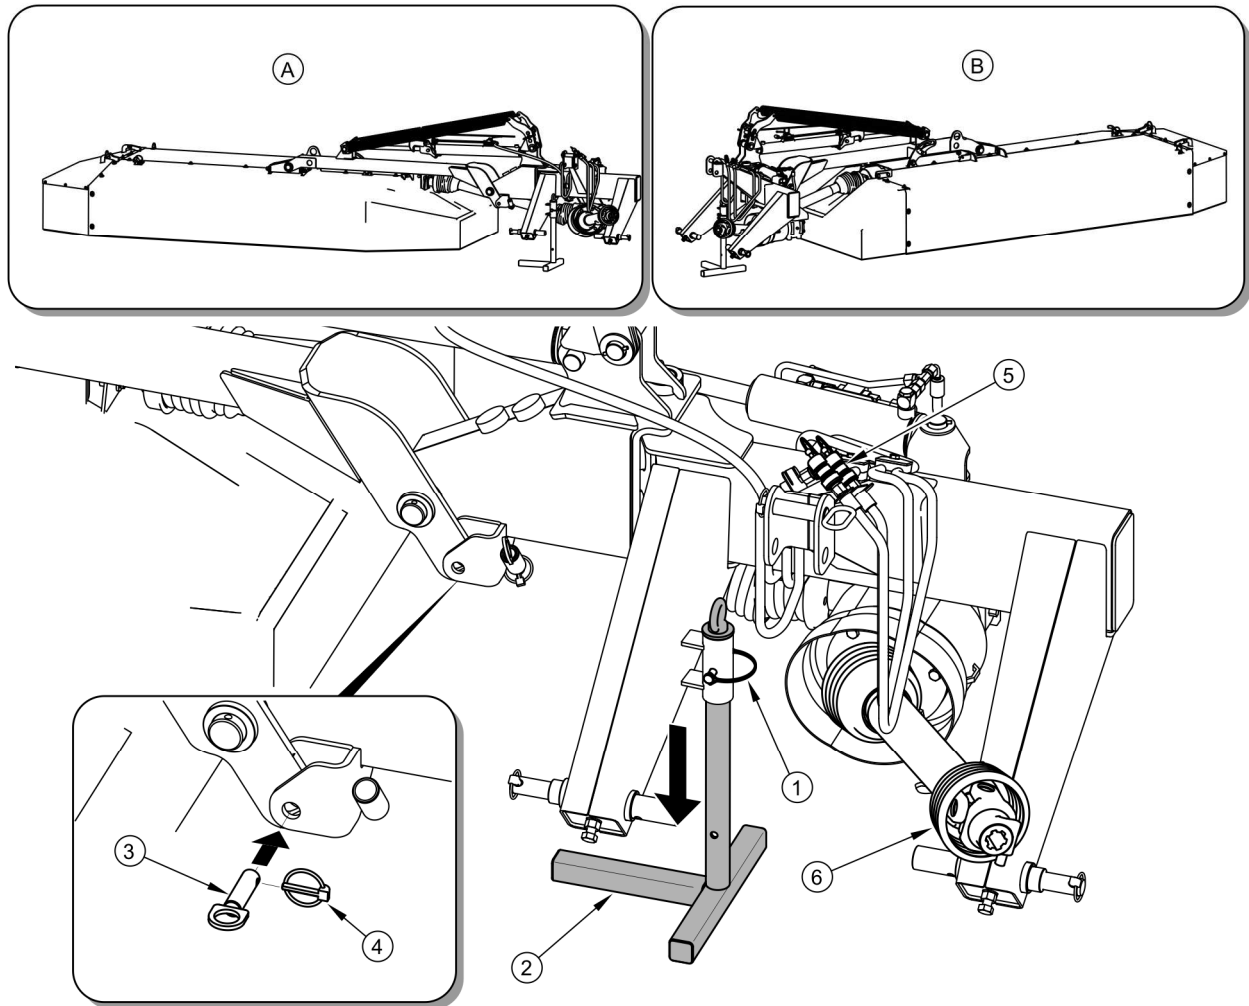

FIG. 4.15 **Disconnecting mower from tractor**
Before disconnecting mower from the tractor's linkage, lock the lifting arm in parking position using pin (3) and cotter pin (4) (figure 4.15). Do not disconnect mower from tractor before lifting arm is interlocked.